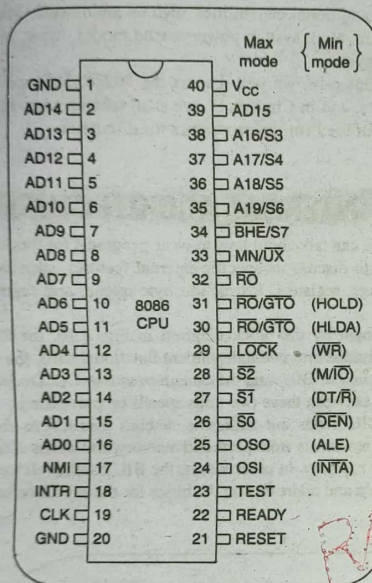

Fig. 2.9 The 8086 pin assignments.
- ✓6. The 8086 is designed to operate in two modes, minimum and maximum. In the *minimum mode*, the 8086 processor works in a single processor environment and generates control bus signals shown in parentheses next to pins 24 through 31 in the 8086 pin diagram of Fig. 2.9. The *maximum mode* is designed to be used to work with the coprocessor 8087 and generates signals listed next to pins 24 through 31.